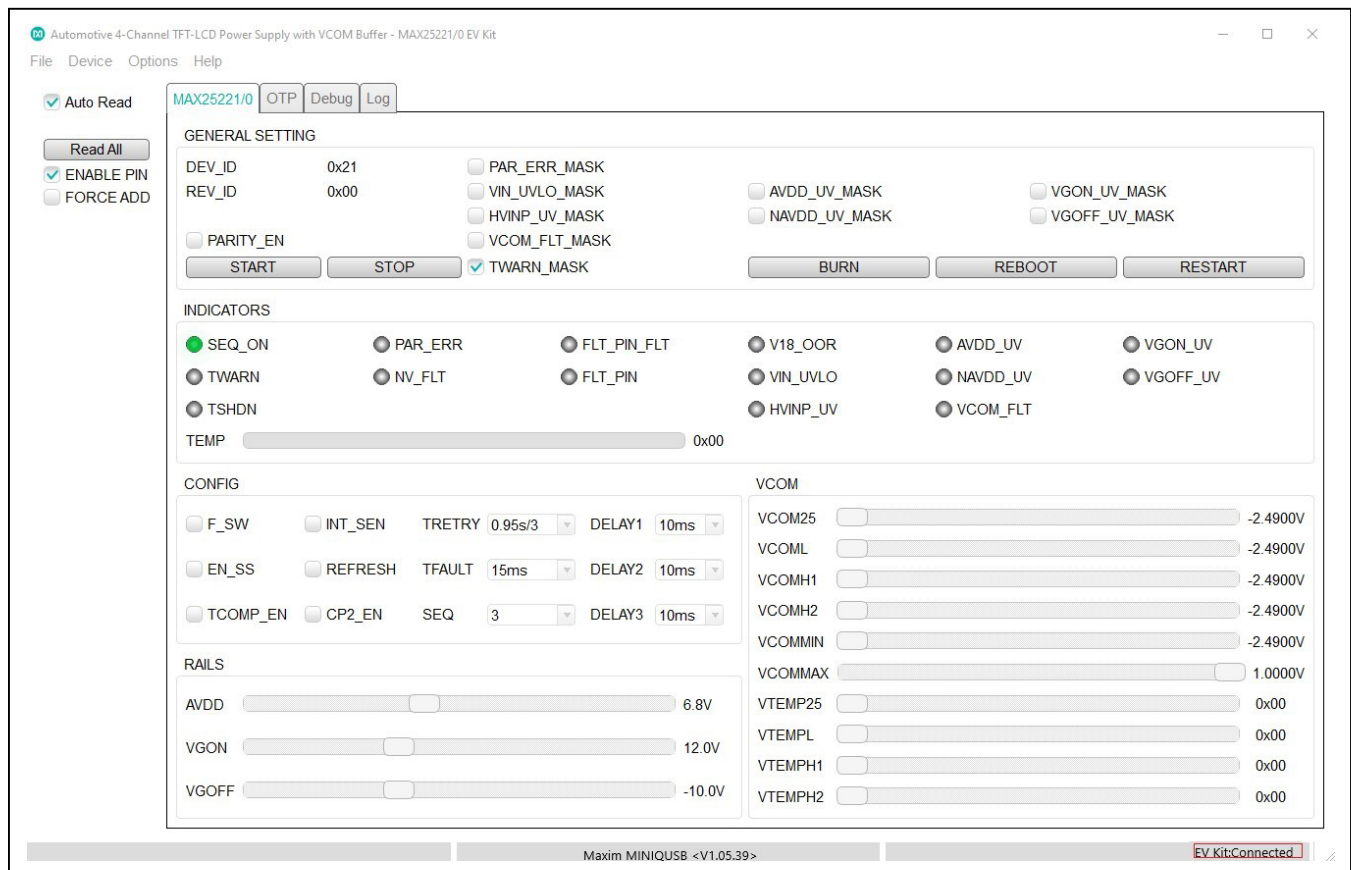

Figure 1. MAX25221 Evaluation Kit Software (GUI)
- From the EV kit software toolbar, select **Device** → **Scan for Address**. Verify the ENABLE pin in the GUI is enabled. The GUI scans the I²C bus for available slave addresses on the bus and selects the first one (in this case, the MAX25221 I²C address with J5 settings: 42H). Press **OK** once the MAX25220/MAX25221/MAX25221B/MAX25221C I²C address has been found. Figure 1, is a screen capture of MAX25221 Evaluation Kit Software (GUI).